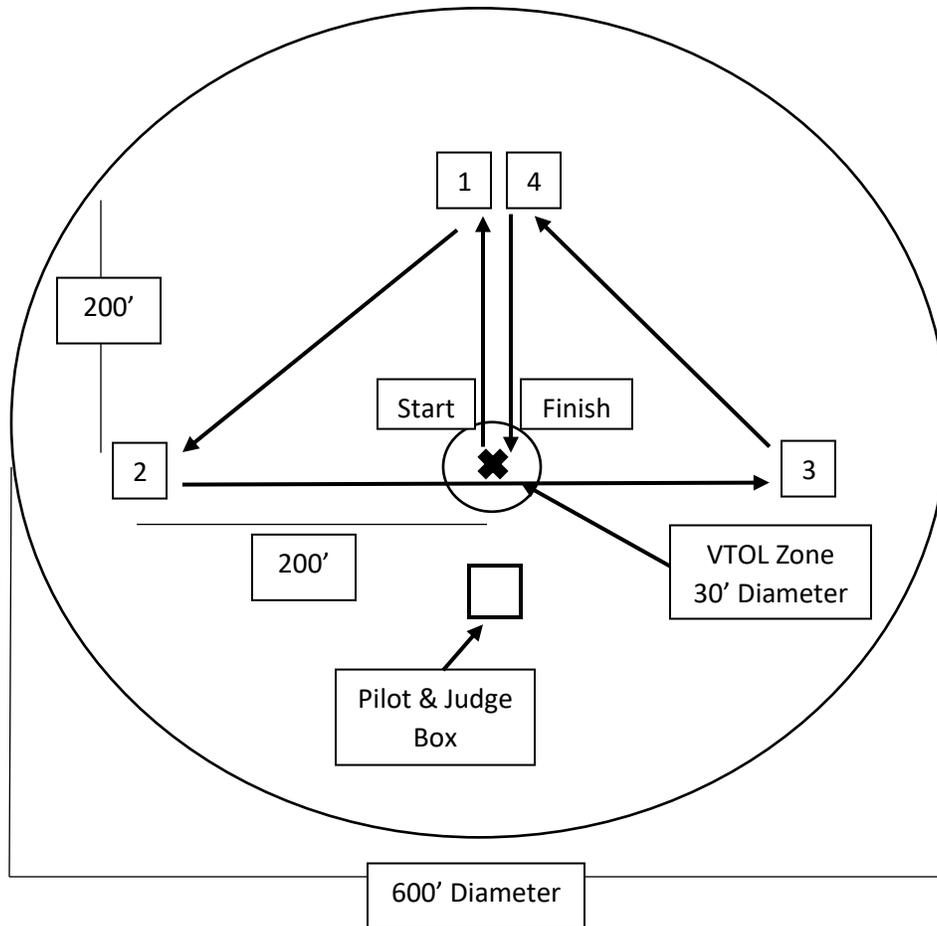

Figure 5: Bonus Challenge Course
A bonus challenge will be available for teams to attempt at their discretion. The challenge will require a series of waypoints to be programmed via GPS coordinates into the aircraft's control system that the vehicle will then autonomously fly. The course is shown below in Figure 5, and the scoring is shown in Table 7. The waypoints are numbered 1 through 4 as seen in Figure 5. The precise GPS coordinates will be supplied at a later date. If a team elects to participate in the bonus challenge, they will be required to prove the remote-kill functionality of the vehicle's power system while operating in autonomy mode during the bench check. A "how-to" guide that is specific to autonomy is also being published on the DBVF webpage with recommended equipment and helpful tips (see Section 8 of this document). The course directions are specified below:
- Fly around the course as shown in Figure 5